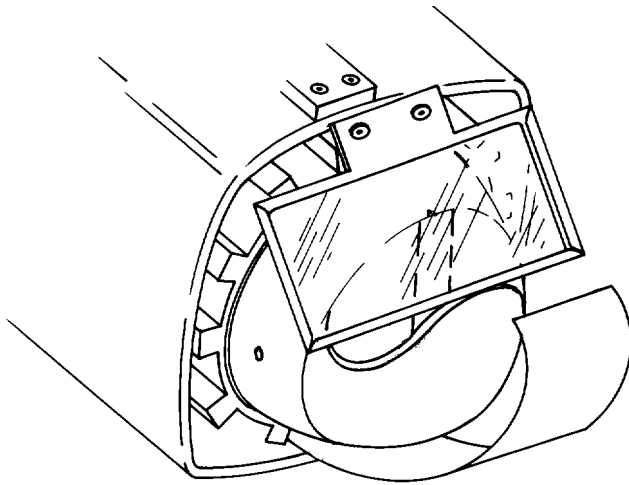

Figure 11. RG-10 Reflector
- c. RG-10. Used for heating solder termination sleeves and shrinking small-diameter tubing. Has a 3/8 inch wide aperture and has to be ordered separately (Figure 11).